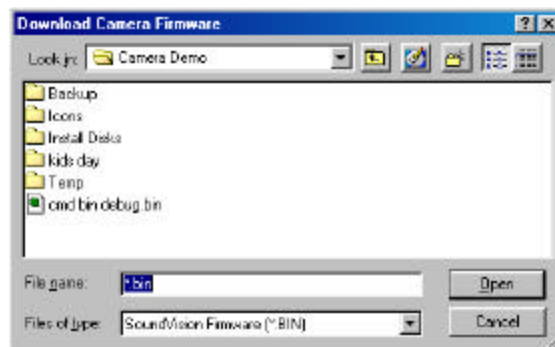

Figure 14-8
- Step 9)** Browse until you locate the firmware file you copied onto the PC (i.e. the file you wish to download). (see figure 14-8 below)